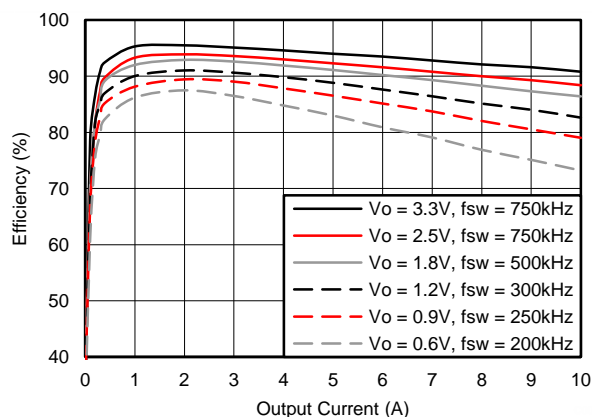
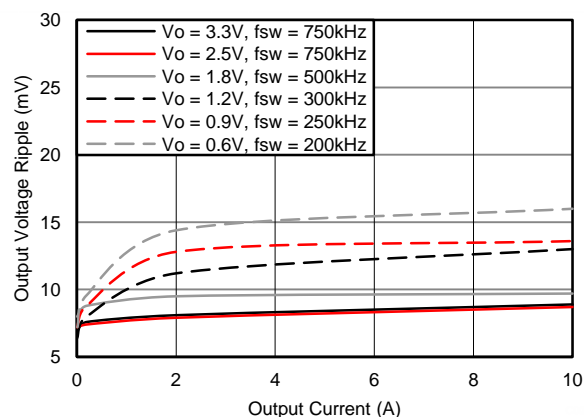
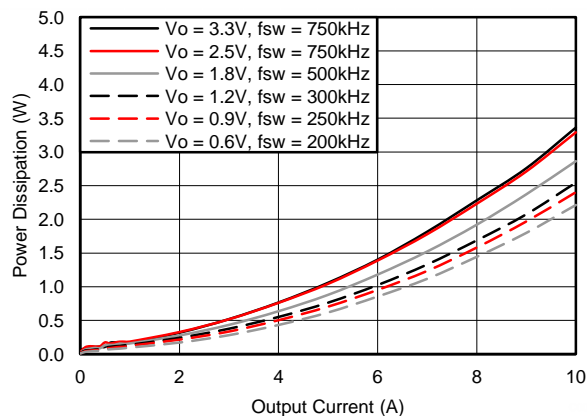

Figure 8. Efficiency vs. Output Current
Figure 9. Voltage Ripple vs. Output Current
Figure 10. Power Dissipation vs. Output Current
- (1) The electrical characteristic data has been developed from actual products tested at 25°C. This data is considered typical for the converter. Applies to Figure 8, Figure 9, and Figure 10.